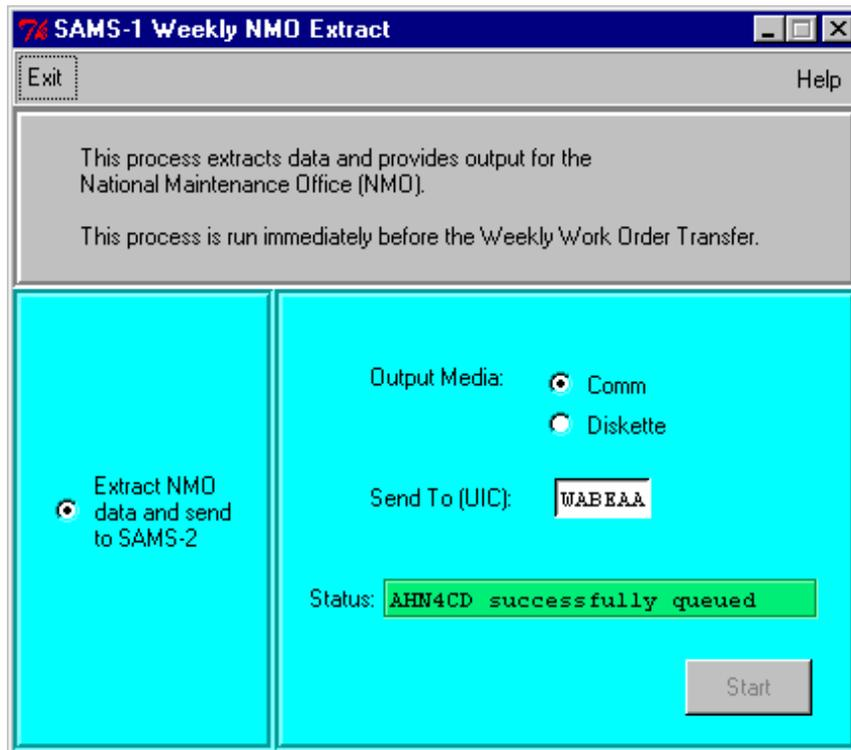

FIGURE 3, AHN4CD successfully queued
5. FIGURE 3 shows a successful NMO Extract with the message in the Status field: "AHN4CD successfully queued" after it has been run to completion.